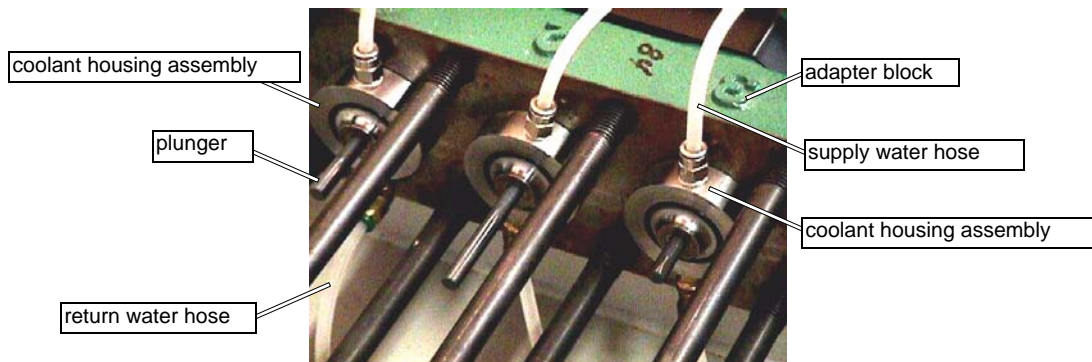

Figure 5-42: Coolant Housing Assembly Installation and Hose Connections
3. Slide the Coolant Housing Assembly over the Plunger until it is fully engaged into the bore in the Adapter Block (Figure 5-42). Note that the plunger is not rigidly held and can be moved slightly for alignment with the Coolant Housing Assembly.